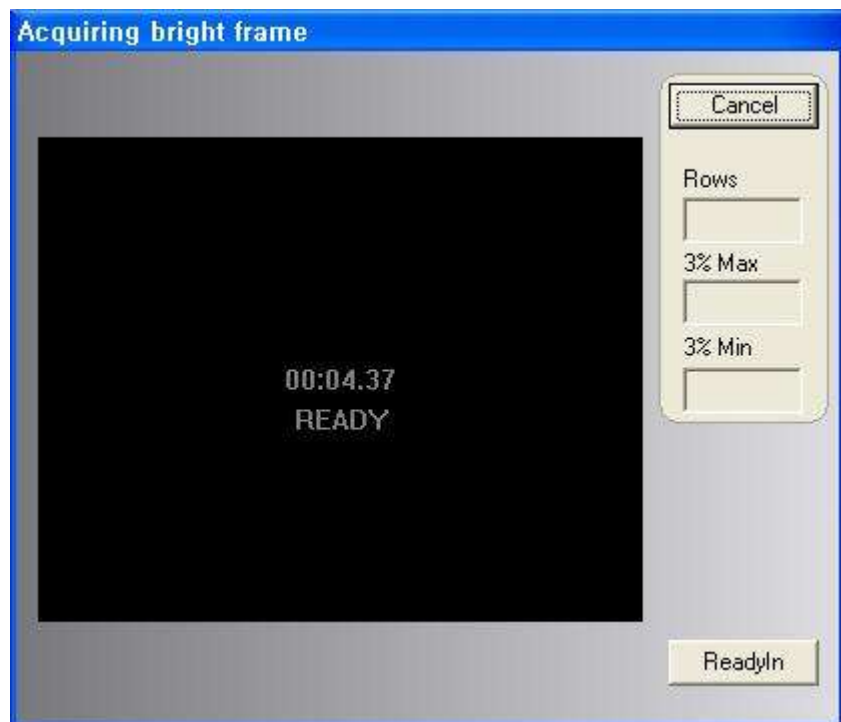

Figure 3: Bright acquisition
- C. When after the dark frame is acquired the pop up will be comes up as ‘figure 3’